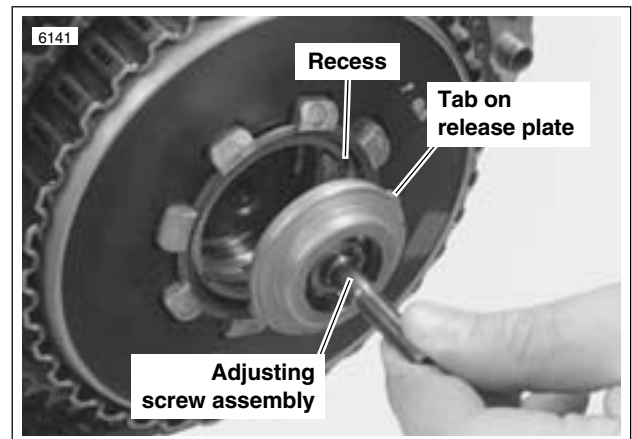

Figure 6-24. Aligning Tabs
See Figure 6-24. Mainshaft nut has left-hand threads. To prevent damage, turn nut clockwise to loosen and remove from mainshaft.
- a. See Figure 6-24. Align two tabs on perimeter of release plate with corresponding recesses in pressure plate.